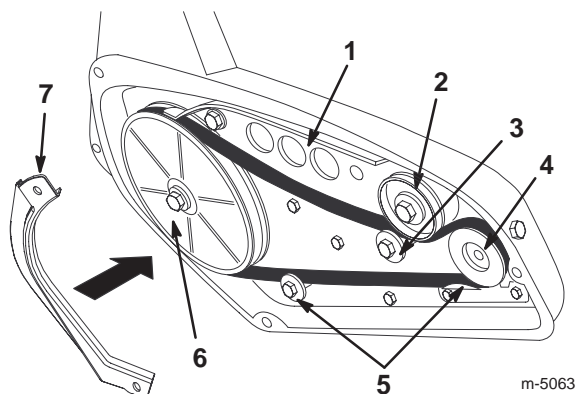

Figure 21
6. Remove the old drive belt from the engine pulley and the idler pulley (Fig. 21).
7. Push down on the idler pulley and remove the old drive belt from the rotor pulley (Fig. 21).
8. Push down on the idler pulley and route a new drive belt around the rotor pulley (Fig. 21).
9. Release the idler pulley and route the new drive belt over the two belt guides, around the engine pulley, and between the idler pulley and the roller (Fig. 21).
Important The drive belt must be on top of the roller and the two belt guides as shown in Figure 21.